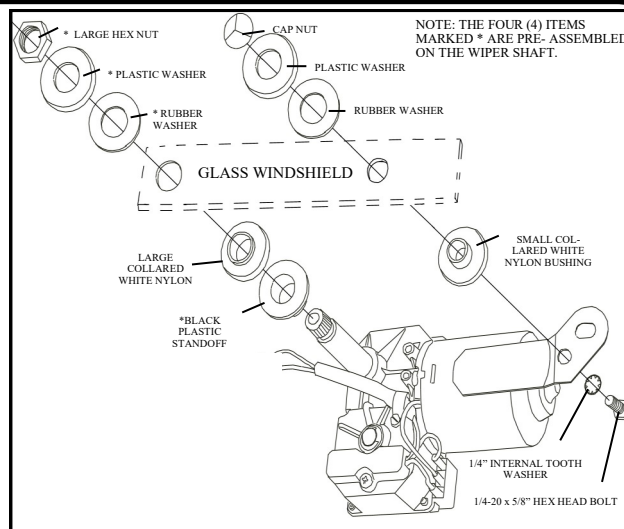

Figure 9.2: Wiper Motor Installation
- 9.2 From inside of cab, insert motor shaft through the larger hole in the windshield until the white nylon bushing is against the windshield. Replace the rubber washer, plastic washer, and hex nut on the outside of the windshield. **(Figure 9.2)** Do not tighten completely at this time.
- 9.3 From inside, put small white nylon bushing with the collar into the small hole in the windshield and pivot the wiper motor so that the small hole aligns with the hole in the bushing. Insert the 1/4-20 bolt through the internal tooth washer, the hole in the wiper motor bracket, the small bushing, and finally the windshield. Next install the rubber washer, plastic washer, and cap nut on outside of windshield. **(Figure 9.2)**